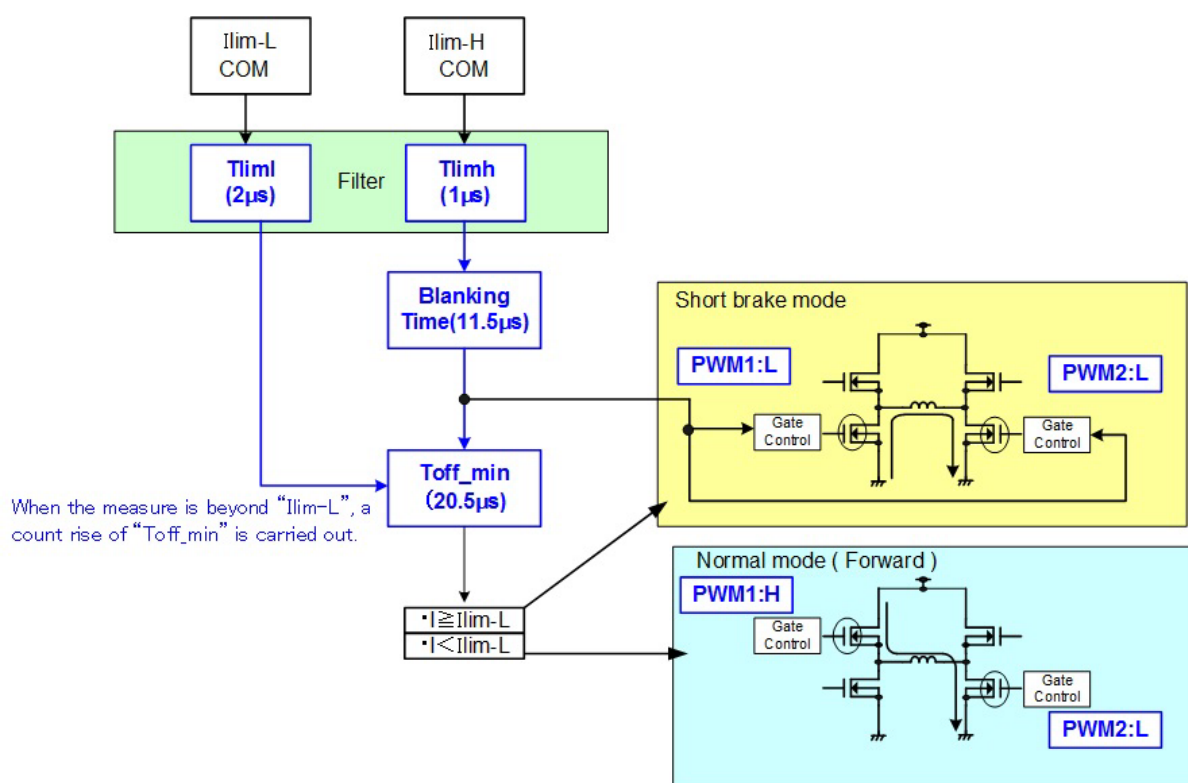

Figure 7.16 Current-limit control circuit operation flowchart
7.7.5. Operation flowchart (Figure 7.16)